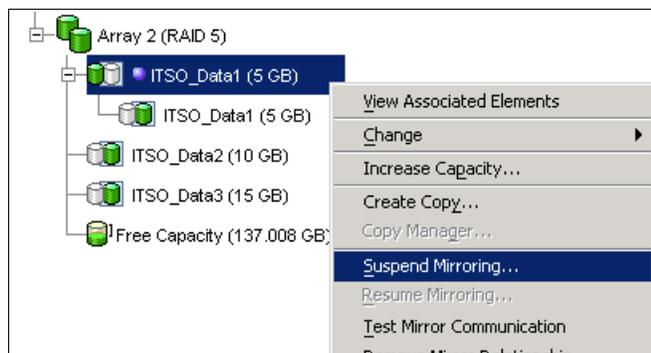

Figure 8-49 Suspending mirroring on a logical drive
1. Select the logical drive in the logical view of the primary storage system and then select the **Logical Drive** → **Remote Mirroring** → **Suspend** pull-down menu option or select **Suspend Mirroring** from the right-mouse pop-up menu (Figure 8-49).